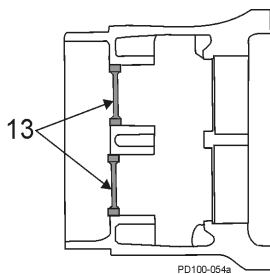

Figure 42 - Remove Rear Oil Seals
- Press out and discard both rear oil seals in the gear case (Figure 42, item 13).